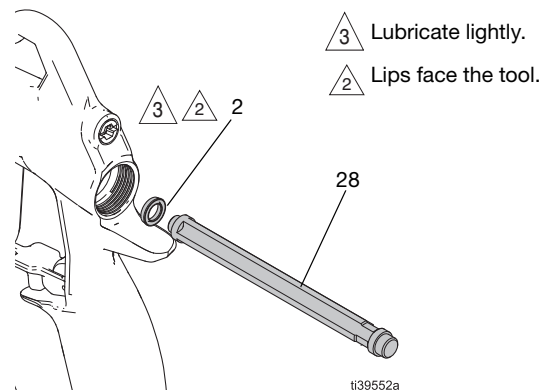

FIG. 47: U-cup installation
3. Remove the gun trigger (9) to access the u-cup (2) from the front of the gun. See **Remove the Trigger**, page 30.
4. Use a thin metal pick or a flat head screwdriver to push the u-cup (2) from the front of the gun out the back of the gun.
- NOTE:** Removal damages the u-cup (2). It cannot be reused.
5. Place a new u-cup (2) on the seal installation tool (28), with the u-cup lips facing the tool. See FIG. 47.
6. Firmly push the u-cup (2) into the back of the gun until the u-cup (2) snaps in place.
7. Install the gun trigger (9). See **Install the Trigger**, page 30.